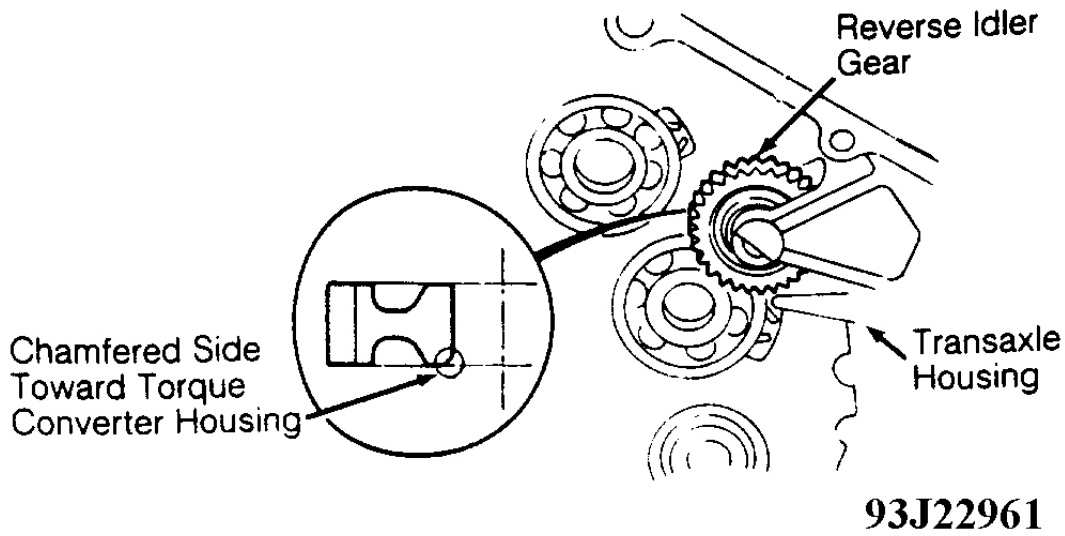

Fig. 37: Installing Reverse Idler Gear
2. Install reverse idler gear in transaxle housing with chamfered side of gear away from transaxle housing (toward torque converter housing). See **Fig. 37** .